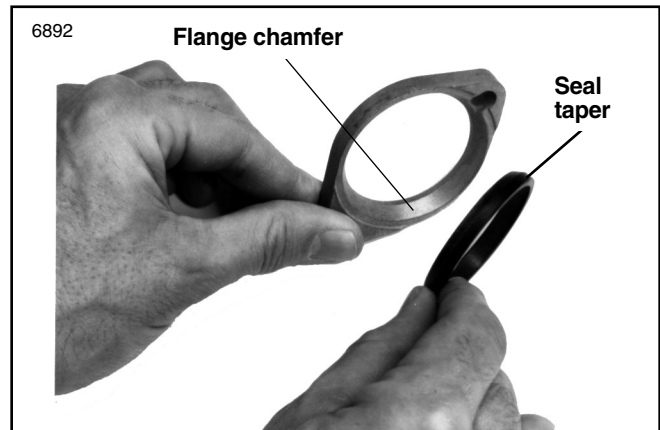

Figure 1. Relationship of Flange and Tapered Seal
4. See Figures 1, 2 and 3. Assemble the manifold as follows: